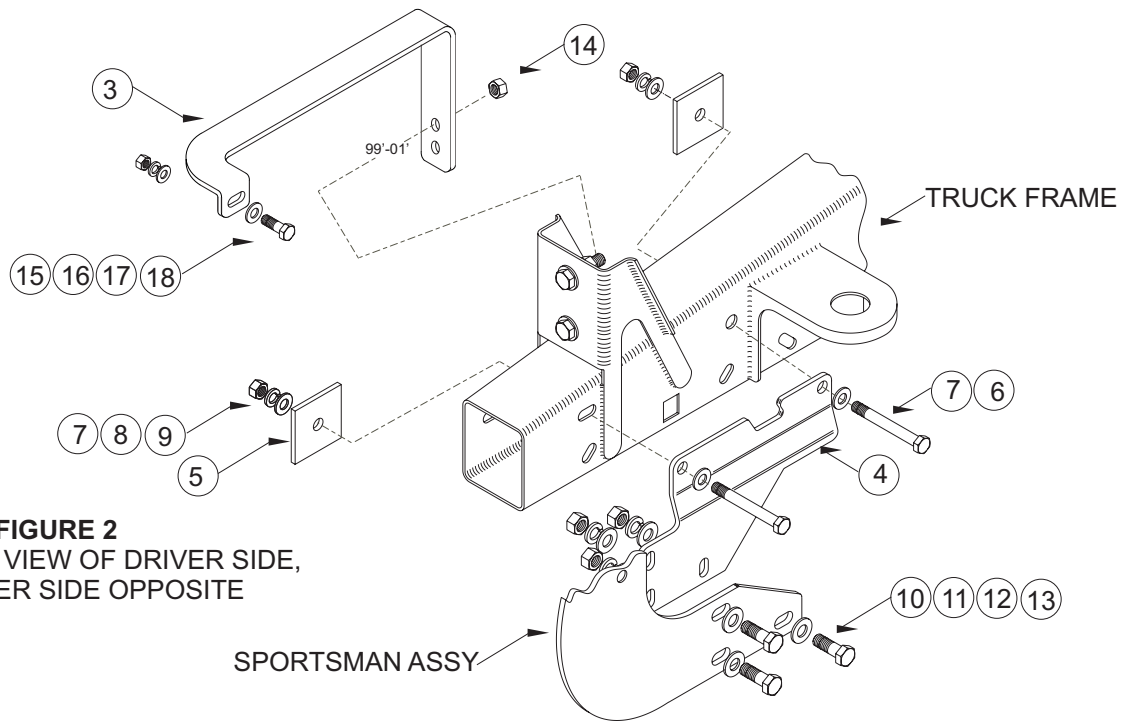

FIGURE 2
- STEP 7. Cut out the slot using a sharp utility knife. When cutting top of slot, drill (2) ½" holes next to each other. Clean up the edges of the slot using a file or sandpaper.
- STEP 8. Install bottom mount brackets using the spacer plate and 1/2" fasteners as shown. Install spacer plate towards center of vehicle. Hand tighten. **SEE FIGURE 2.**
- STEP 9. From inside of frame behind bumper, position top brackets so that front of bracket protrudes between top of bumper and bottom of grille. (Push down on bumper cover to slide bracket through). Locate bumper bolt ends (front side of frame), then position hole of bracket on the end of the top bolt, over existing nut. Hand tighten supplied 12mm jam nut over bracket. **SEE FIGURE 2.**